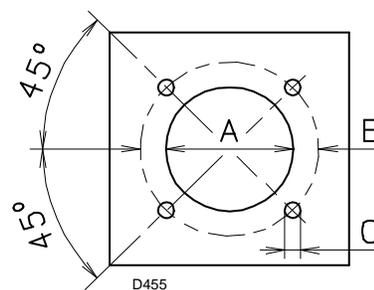

Fig. 12
Drill the combustion chamber mounting plate as shown in Fig. 12. The position of the threaded holes can be marked using the gasket supplied with the burner.
- Place entire burner on the boiler hole (arranged previously, see Fig. 12), and fasten with the screws given as standard equipment.